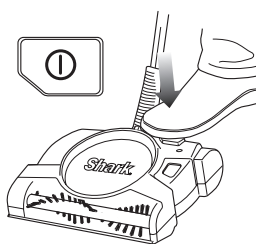

Fig. 6
- 6 Empty dust container contents. (Fig. 6) If desired, you may rinse with water to clean the dust container - but dry thoroughly before replacing. When finished, replace the dust container.
- 1 Press the power button to start the unit. When finished cleaning, press the power button again to turn the unit off. (Fig. 6)